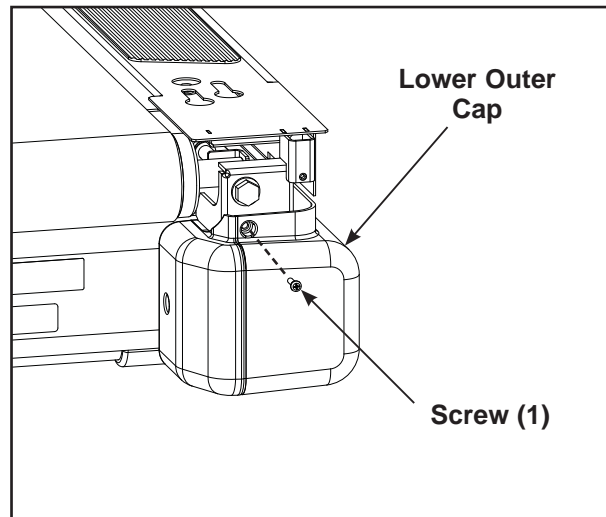

Figure 5
- C. Using a Phillips screwdriver, remove the rear screw securing each of the lower outer caps to the frame. See Figure 5.